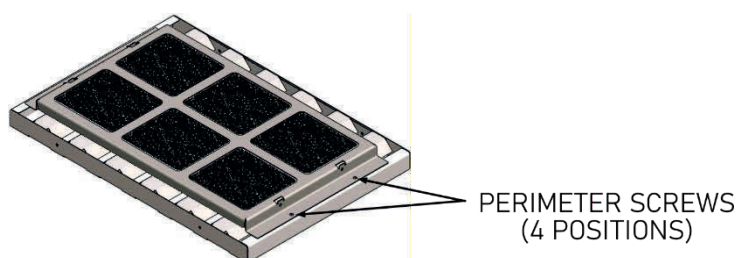

FIGURE 18: CHARCOAL FILTER REMOVAL
2. If the baffles contain a charcoal filter (purification systems), remove the charcoal filter and bracket assembly by releasing the screws around the perimeter before cleaning (FIGURE 18).